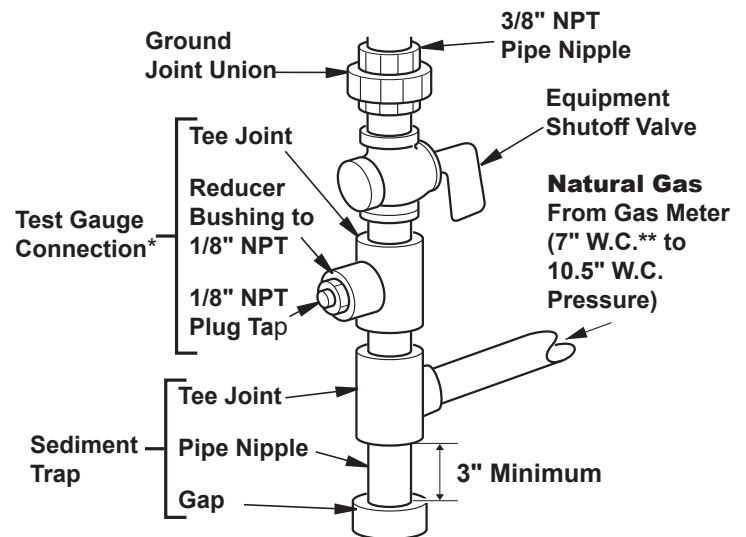

Figure 20A - Gas Connection
Use 3/8" black iron pipe or greater. Installation must include an equipment shutoff valve, union, and plugged 1/8" NPT tap. Locate NPT tap within reach for test gauge hook up. NPT tap must be upstream from heater (see Figure 20A).
For both gas types, install sediment trap in supply line as shown in Figure 20A (page 16). Place sediment trap where it is within reach for cleaning. Place sediment trap where trapped matter is not likely to freeze. A sediment trap traps moisture and contaminants. This keeps them from going into heater controls. If sediment trap is not installed or is installed wrong, heater may not run properly.
3. Check all joints from gas meter to equipment shutoff valve for natural gas or propane supply to equipment shutoff valve for propane (see Figures 20A, 20B, and 21). Apply a noncorrosive leak detection fluid to all joints. Bubbles forming show a leak.